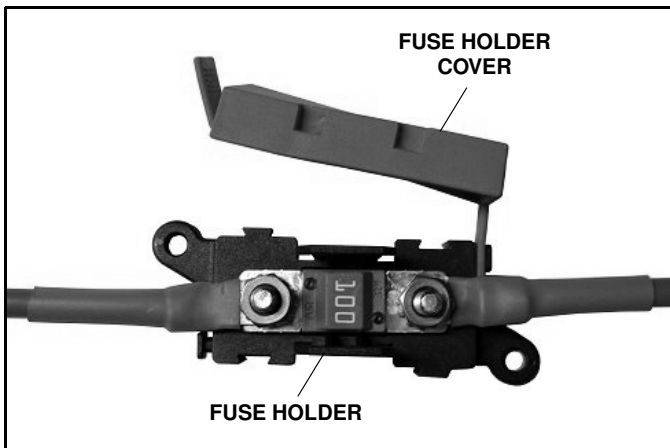

Figure 1
3. Remove the red wire from extension kit parts bag. Place the small ring terminal end of the red wire over the fuse holder stud. Replace nut and cover. (See Figure 1.)